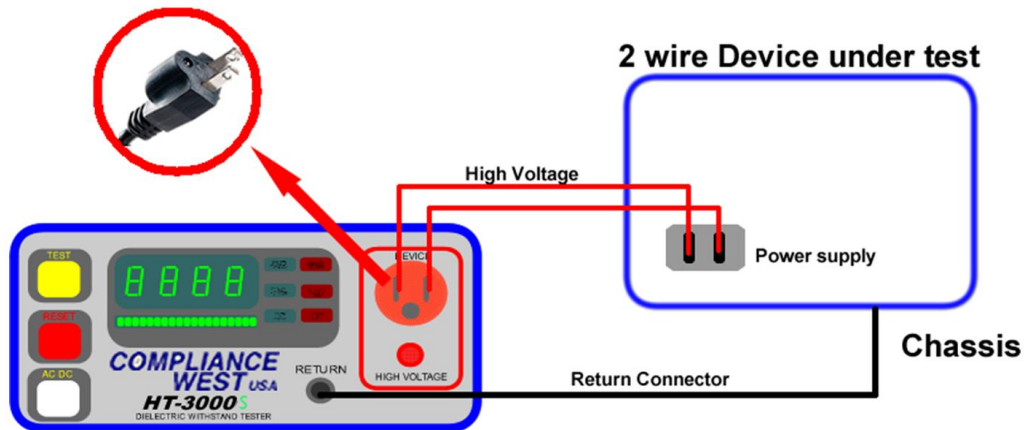

Figure 7. Testing a Two Wire Power Cord Device
4. Plug the power supply cord of the device being tested into the **Device** receptacle on the front panel of the HT-S unit. See Figure 7 for detailed connections.